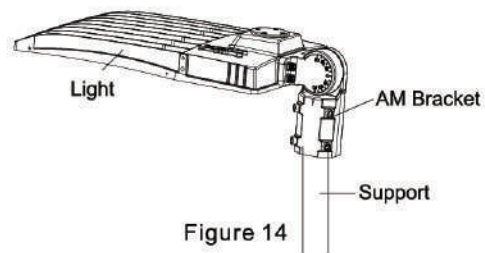

Figure 14
Step 2: Place the bracket into the pole and lock the four bolts.(Figure 14)